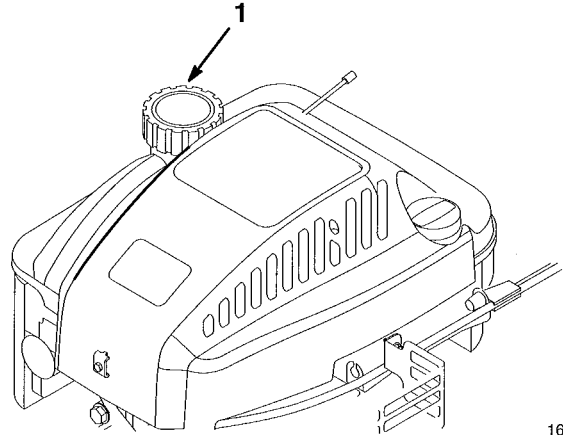

Figure 37
6. Fill fuel tank (Fig. 37) with fresh, clean gasoline.